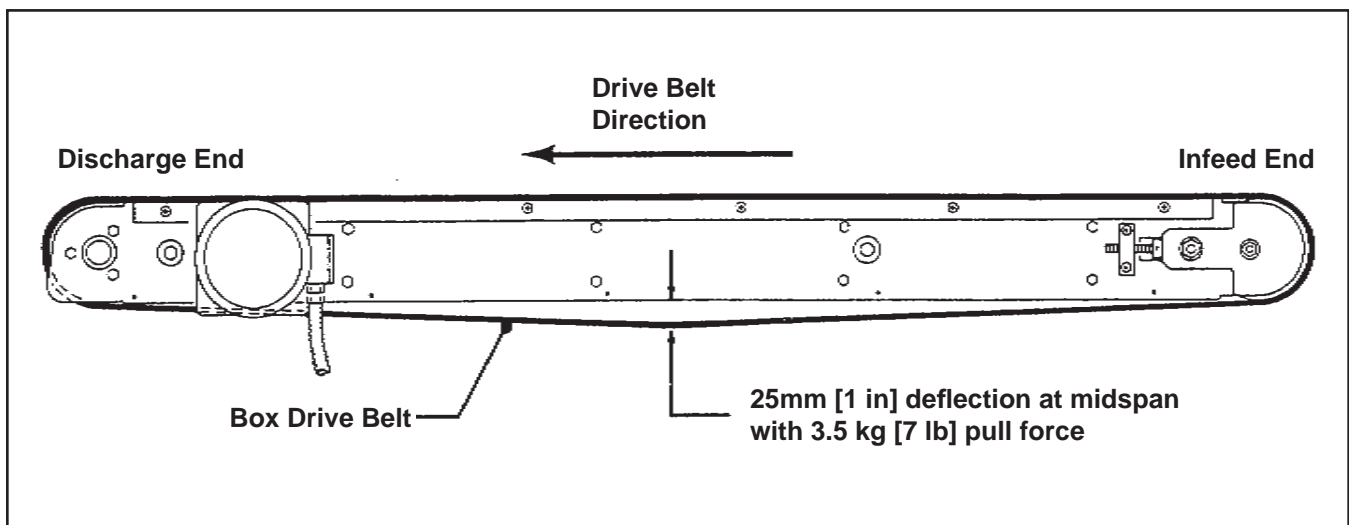

Figure 12-4 Drive Belt Tension Adjustment (Top View)
10. Set drive belt tension – turn adjustment screws (J) equally on both upper and lower tension assemblies. Turn screws clockwise to reduce belt tension, counterclockwise to increase tension.
Use force gauge to pull belt outward one inch [25mm] at midspan, as shown in **Figure 12-4**, with a moderate pulling force of 7 lbs. [3.5 kg]. Tighten lock nuts (H) on both tension assemblies to secure tension setting.